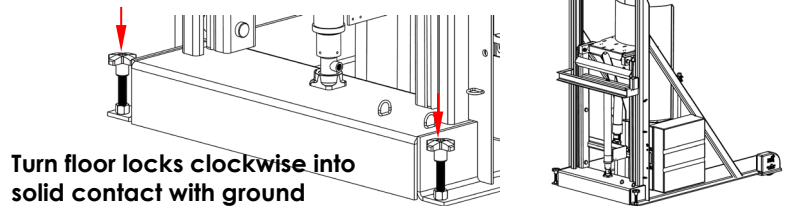

FIG. 3A: Pendant controller functions
a) Adjust the height of the chute/drum to the height of the waste receptacle that will receive the trash from the drum. To raise the chute *without tilting it*, press the RAISE LIFT portion of 4-point controller button. See FIGS. 3A, 3B. The cylinders will extend and elevate the chute only while the operator continues to press the button. The chute will maintain position once the button is released.
Elevate the chute by pressing the RAISE LIFT button of the 4-point controller button. See FIGS. 3A & 3B, p. 5. In response to the signal from the controller, the motor turns and spins the gear pump. Oil flows out of the reservoir, through the suction filter and into the pump.